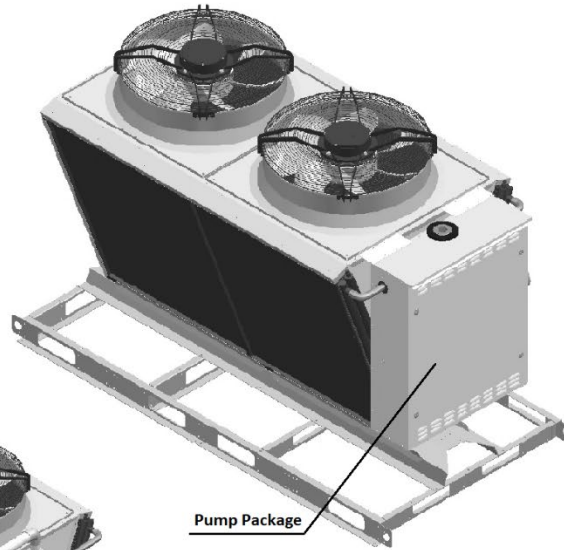
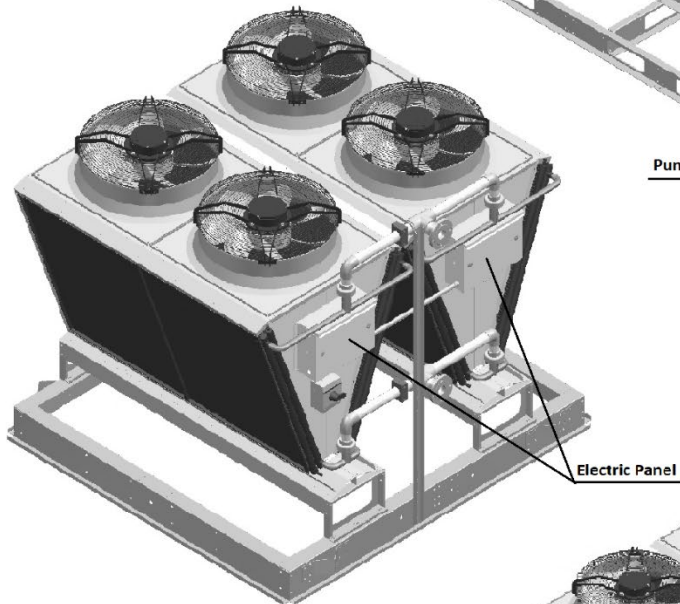
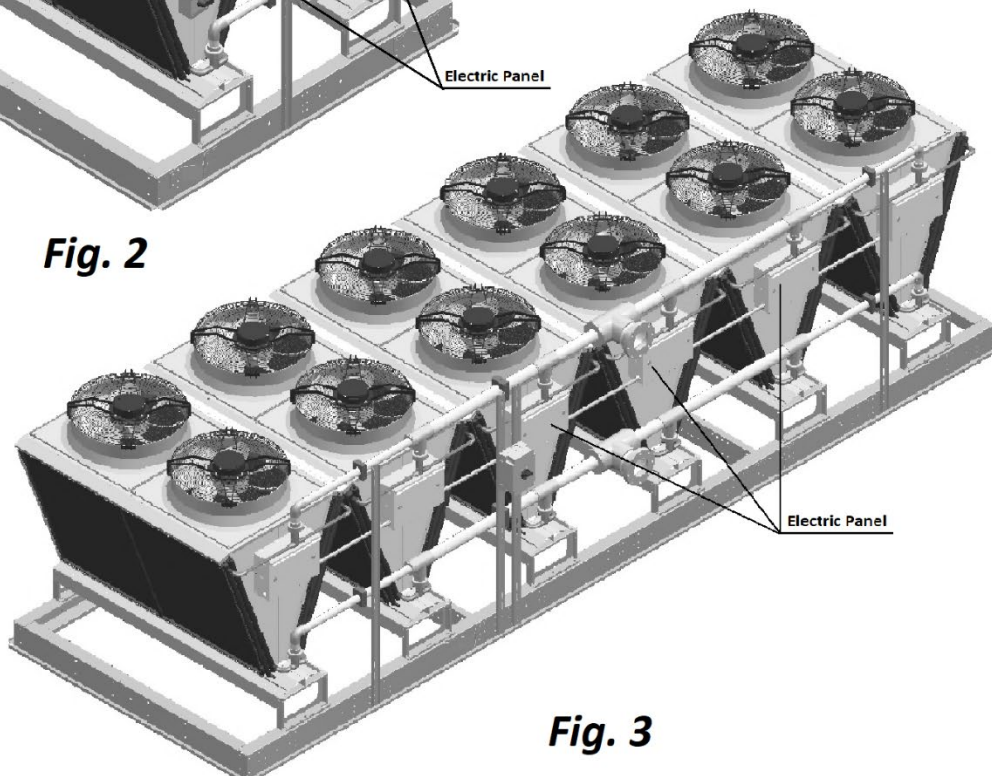

Fig. 1
Fig. 2
Fig. 3
- Fluid cooler NG-V-12 (Pic.C.4, Fig.1) is composed of one such block; NG-V-22 (Fig.2) composed of two such blocks etc. largest single fluid cooler, NG-V-62 (Fig.3) composed of six of them.
As an option, each block of fluid cooler could be equipped with the pump package (as shown on Fig.1 for NG-V-12).